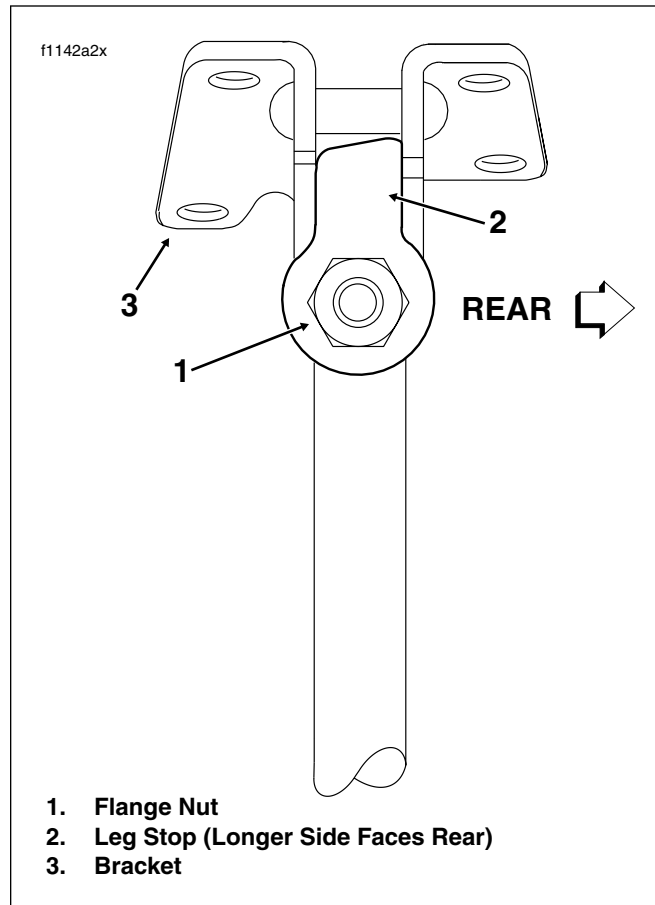

Figure 2-201. Leg Stop Orientation (Full Forward Position)
4. Verify that the longer side of the leg stop faces the rear of the motorcycle. See Figure 2-201.